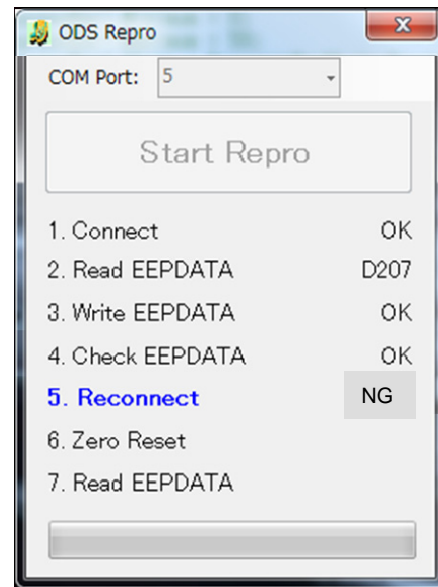

Figure 24
- If the OCS reprogramming stops (displays NG) at item 5, 6 or 7, refer to Figures 24 through 26 on pages 15 and 16.